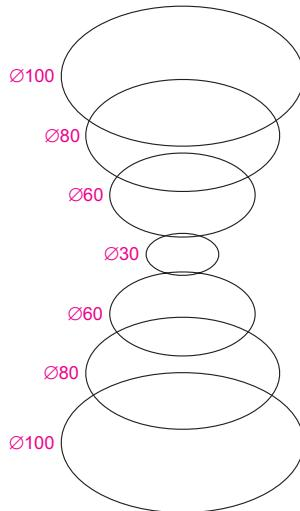

Fig. 12.41 Example Loft – the cross sections
1. Construct the seven circles shown in Fig. 12.41 at vertical distances of 30 units apart.